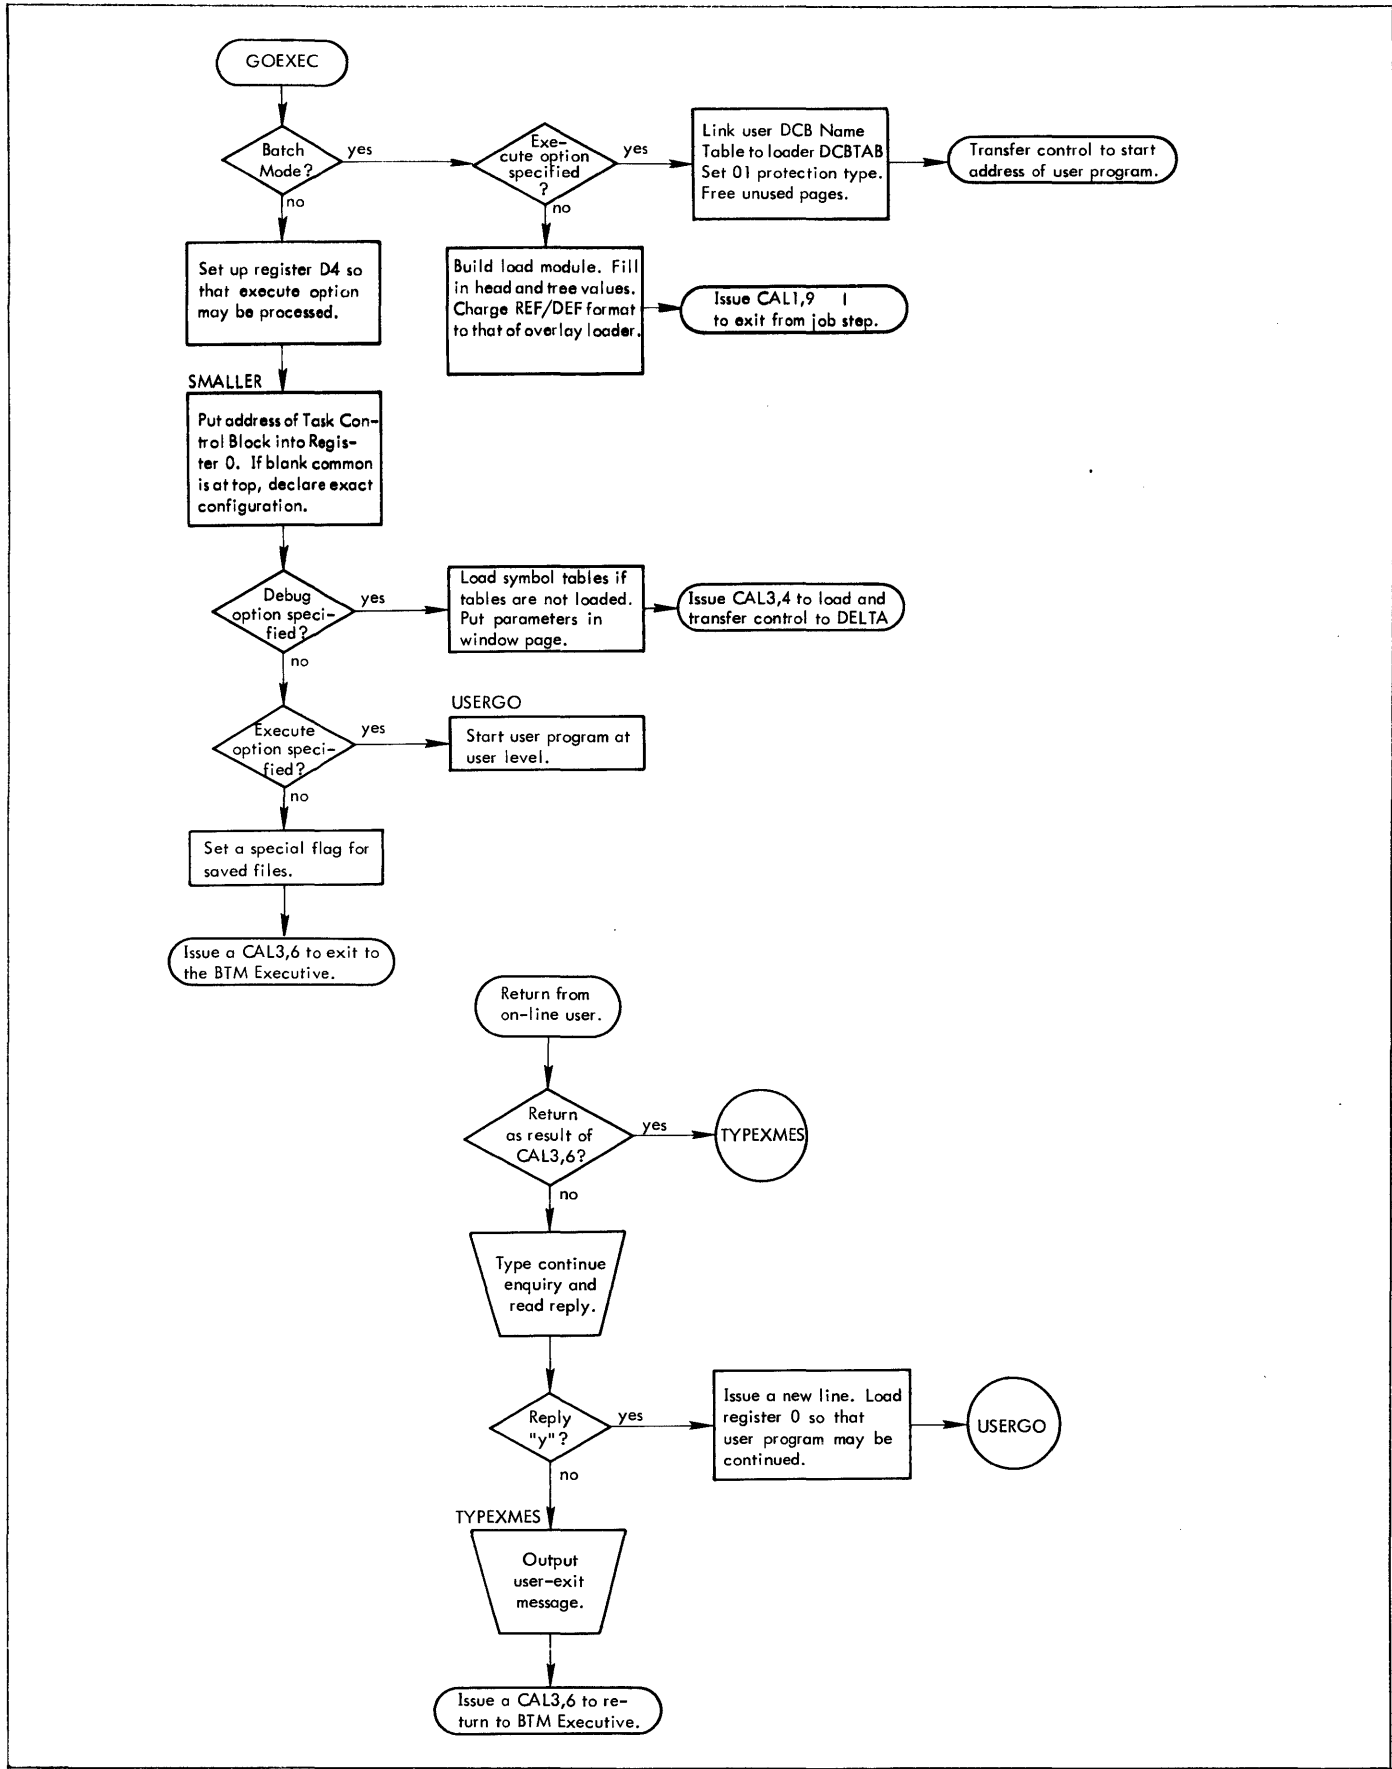

Figure 2-22. Flowchart for Execute Module
- g. Start the user program at the user level. Register 0 contains the first half of the program status doubleword, PSD, to be used when the new process is initialized. Bits 0-3 are the condition code (CC); bits 4-7 are the floating controls (FC); and bits 15-16 are the instruction address (IA).
6. Flowchart. See Figure 2-22.